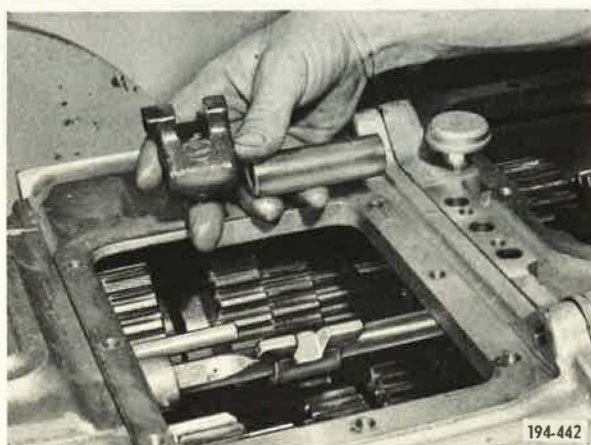

Figure 70. Installing First Speed Shifter and Reverse Speed Lockout Spacer
6. Install first speed shifter rail through front of case and install first speed shifter and reverse speed lockout spacer on rail. See Figure 70. Advance rail through intermediate bore of case and first speed shifter fork until rail reaches neutral position.